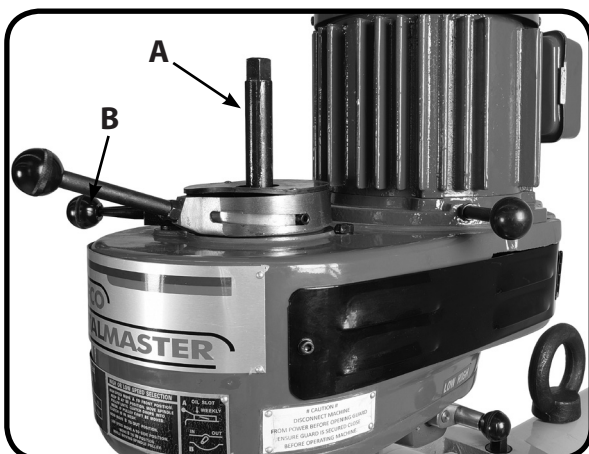

Fig. 18
3. Place the mill in the low spindle speed range to keep the spindle from turning or use the spindle brake in the next steps. (B of Fig. 18)
4. With one hand holding the tool in place, insert the drawbar into the spindle from the top of the head, then thread it into the tool (see A of Fig. 18)